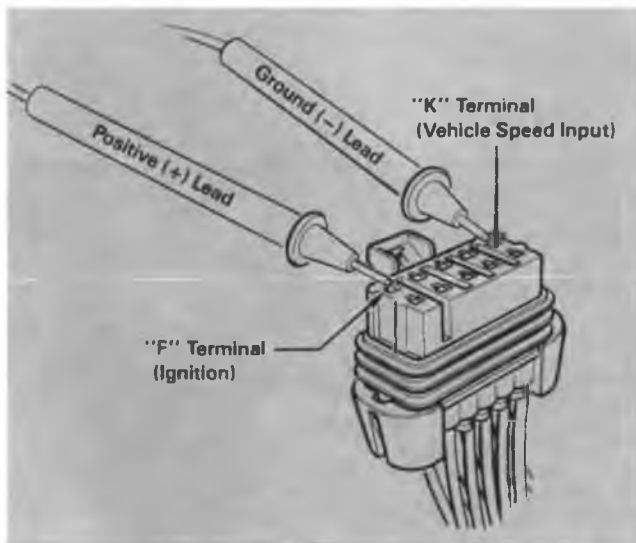

Figure 5-2 Voltmeter Hookup
(See GMT-400 Cruise Diagnostic Chart for reference to Figures 5-2 & 5-3, pages 16 & 17.)
- Connect voltmeter across pins F and K of connector C4A. See Figure 5-2
- Check for open in DK GRN wire (83)